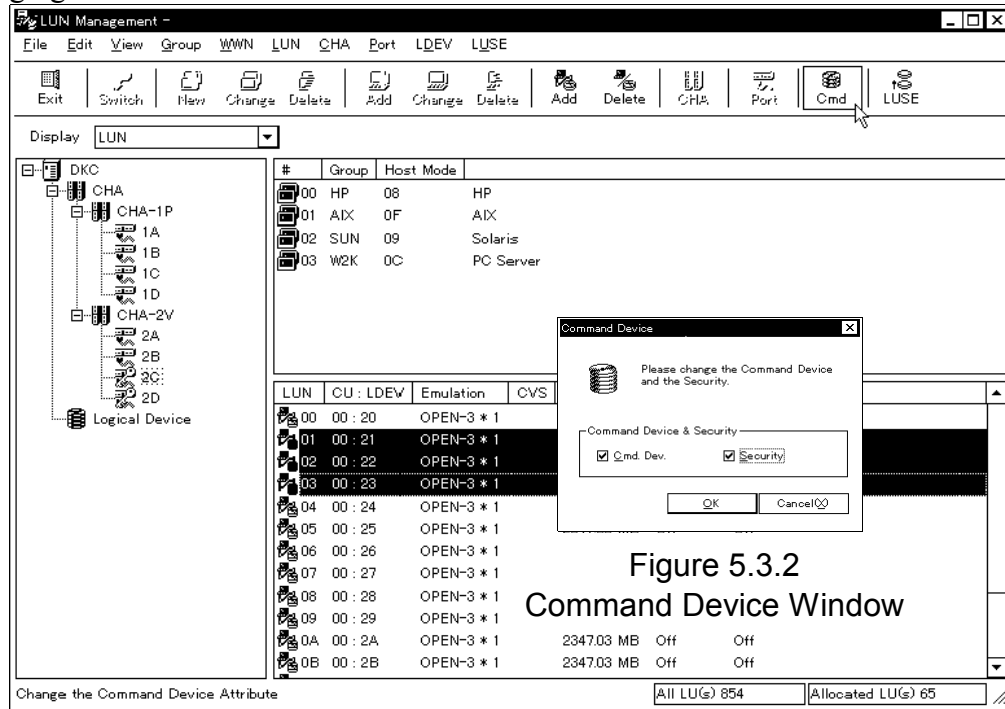

Figure 5.3.2
- ③ Change “Command Device” in the Command Device Window (Figure 5.3.2), and select (CL) the [OK] button.
- ④ Information on the LUN that has been selected from the lower right list is reflected.